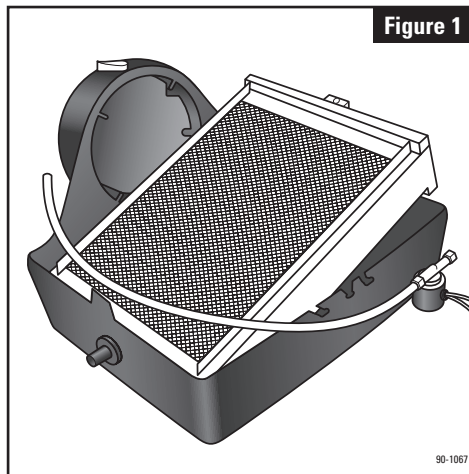

Figure 1
**1.** Remove front cover by pressing center tabs on top and bottom of the cover (1) and base (2). Pull feed tube (3) out of the water distribution tray (4). Tip the evaporative assembly forward and lift it out of the humidifier. (See Figure 1)
**2.** The humidifier comes assembled for left side discharge. If converting to right side discharge, the base can be rotated so round collar is facing to the right. Swap the location of the hole plug (10) and drain spud (9) if using a right side discharge. To remove the cap, push and twist from inside the housing while lifting the cap up slightly on the outside. To remove the drain spud, twist and push from the outside of the base.